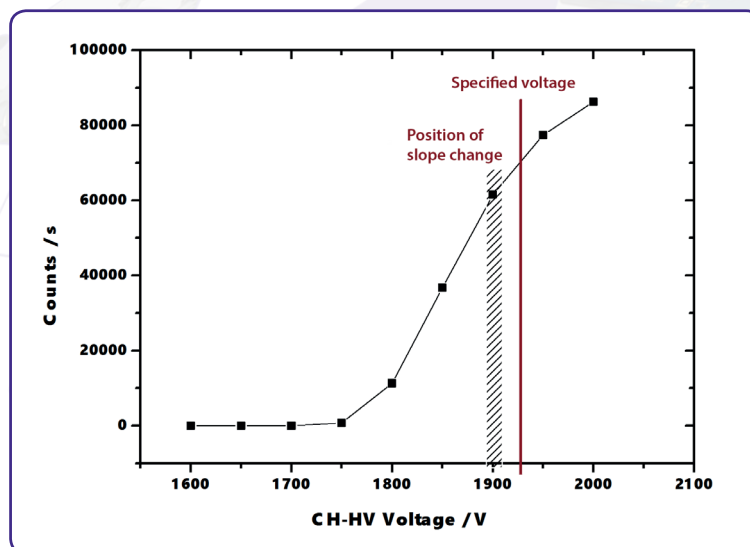

Figure 18: Example of MCP curve (for illustration only).
**Figure 18** shows an example of an MCP curve with the specified operation voltage. The MCP curve for specifying the starting operation voltage for a detector can always be found in the specification sheet.